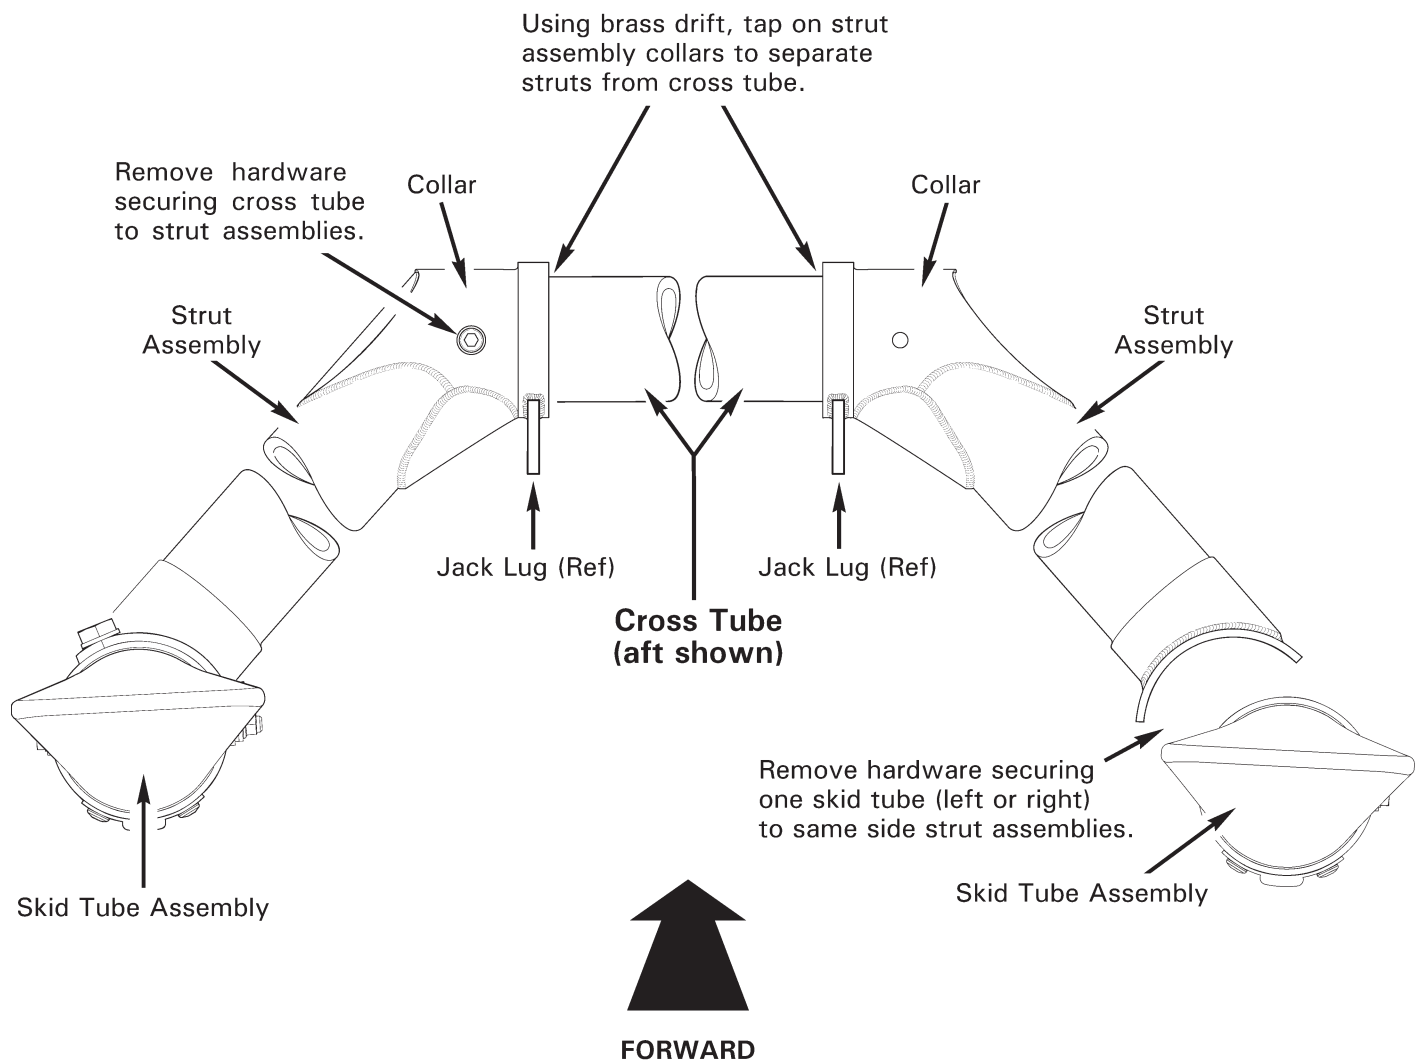

FIGURE 32-2 CROSS TUBE REMOVAL
2. Refer to Figure 32-2. Remove hardware securing one skid tube (left or right) to same side strut assemblies.
1. Refer to Figure 32-2. Lightly coat mating surfaces of cross tube with zinc-chromate or epoxy primer using approved materials per Section 20-70. While primer is wet, install cross tube into strut assemblies and align fastener holes.